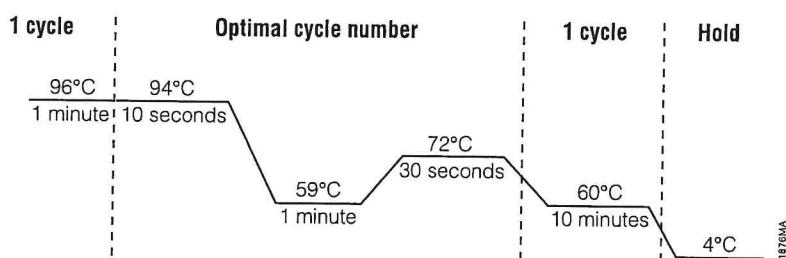

Figure 1. Thermal cycling protocol for the GeneAmp® PCR System 9700, Veriti® 96-Well Cycler and ProFlex® PCR System.
2. Select and run the recommended protocol, which is provided in Figure 1.